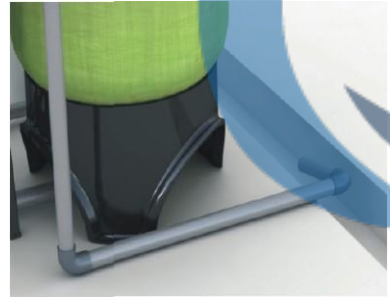

Figure 1-4
Insert drain line flow control into drain outlet, use UPVC glue to connect drain outlet with UPVC drain pipeline as Figure 1-4 shows.
- Be sure not connect drain with sewer, and leave a certain space between them, avoid wastewater be absorbing to the water treatment equipment, such as showed in the Figure1-4.
⑤ Connect brine tube